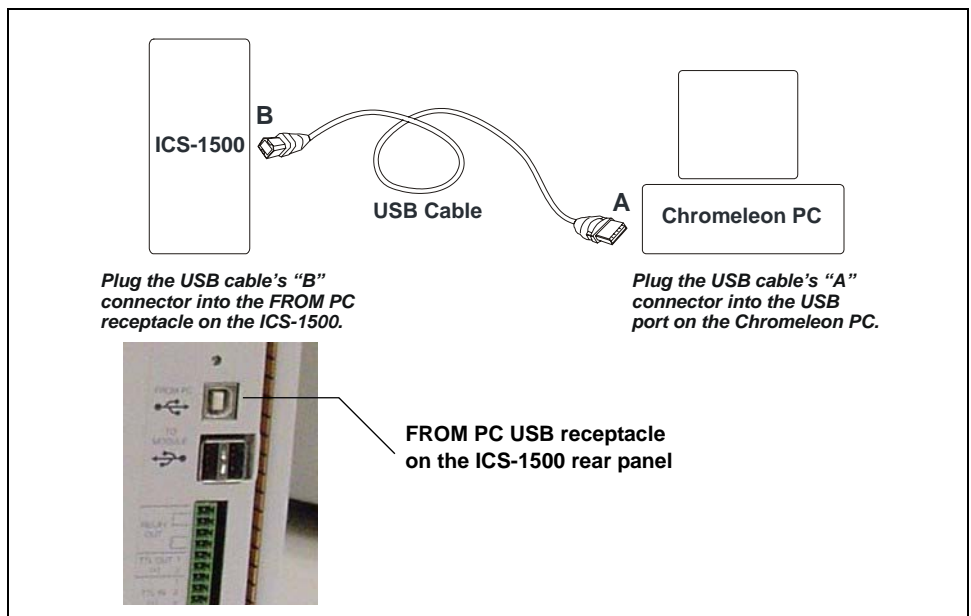

Figure 7. Example Connections: One ICS-1500 Connected to the Computer
2. Plug the cable's "A" connector into a USB port on the Chromeleon PC and plug the cable's "B" connector into the USB receptacle (labeled **FROM PC**) on the ICS-1500 rear panel (see Figure 7).